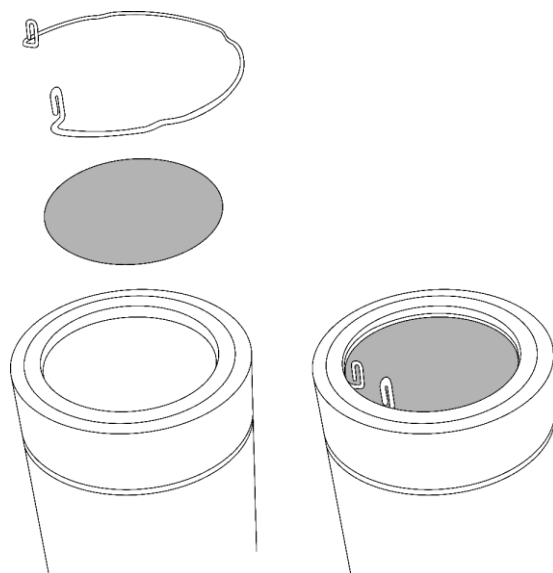

Fig. 11
- 02) Gently press the retainer spring as flat as possible and insert it against the diffuser (see Fig. 11).